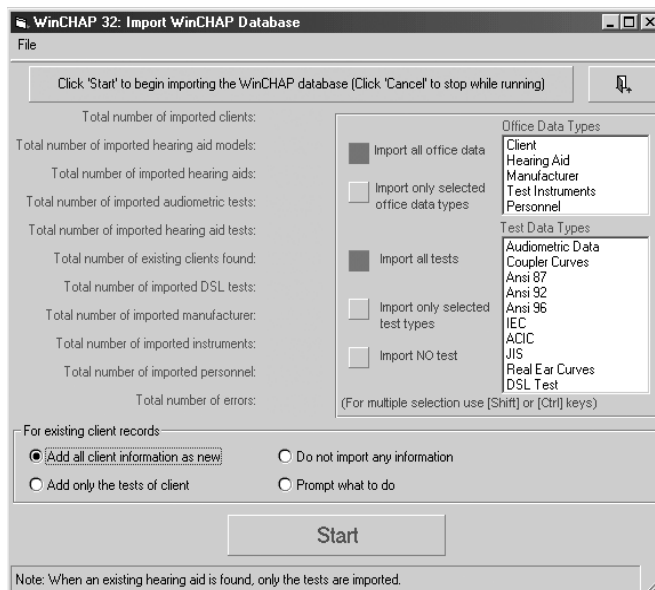

Figure 2.3.6—WinCHAP Database Import window
3. Click **Run**. This will open the WinCHAP Database Import window that will detail your WinCHAP database transfer as it happens. See Figure 2.3.6.